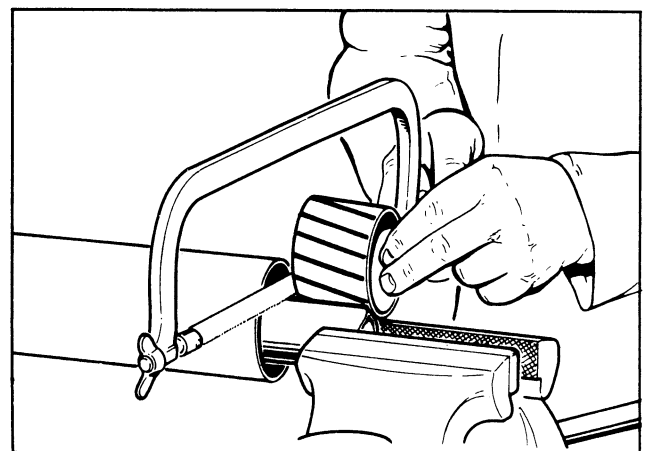

Figure 18
9. Using the cut off section as a guide, cut the shaft the same amount. (Figure 18)